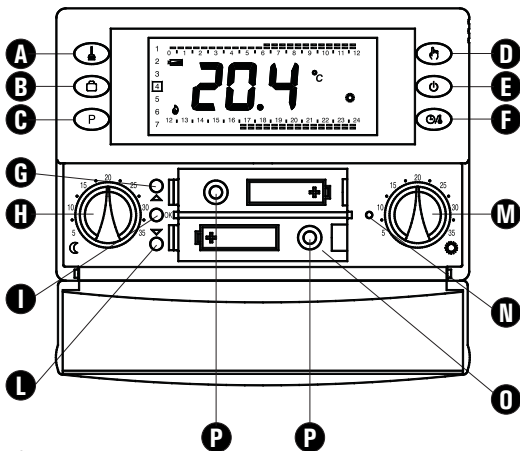

Fig. 1
4. Solo nel caso in cui il cronotermostato non risponda correttamente eseguire un reset tramite il tasto indicato in **N** di Fig. 1; **NON USARE AGHI O STRUMENTI CHE POSSANO DANNEGGIARE IRREPARABILMENTE IL CRONOTERMOSTATO.**
When starting up for the first time open the battery lid and insert the batteries in the battery compartment **O** in Fig. 1, observing the polarities indicated. The batteries must be alkaline 1.5V type AA.
If necessary carry out a reset operation by inserting a pointed object through the hole provided (**N** in Fig. 1); **DO NOT USE NEEDLES OR TOOLS THAT COULD IRREPARABLY DAMAGE THE CHRONOSTAT.**
'**OK**': For programming the time and current day of the week (**I** in Fig. 1);
'**▲**': Forward (**G** in Fig. 1);
'**▼**': Back (**L** in Fig. 1);
The Comfort temperature is set by means of the '🔧' knob (M in Fig. 1) whereas the Economy temperature is set by means of the '🌡️' knob (H in Fig. 1).
5. Insert the batteries in the battery compartment (O in Fig. 1); see paragraph 'HOW TO INSERT/REPLACE THE BATTERIES'.